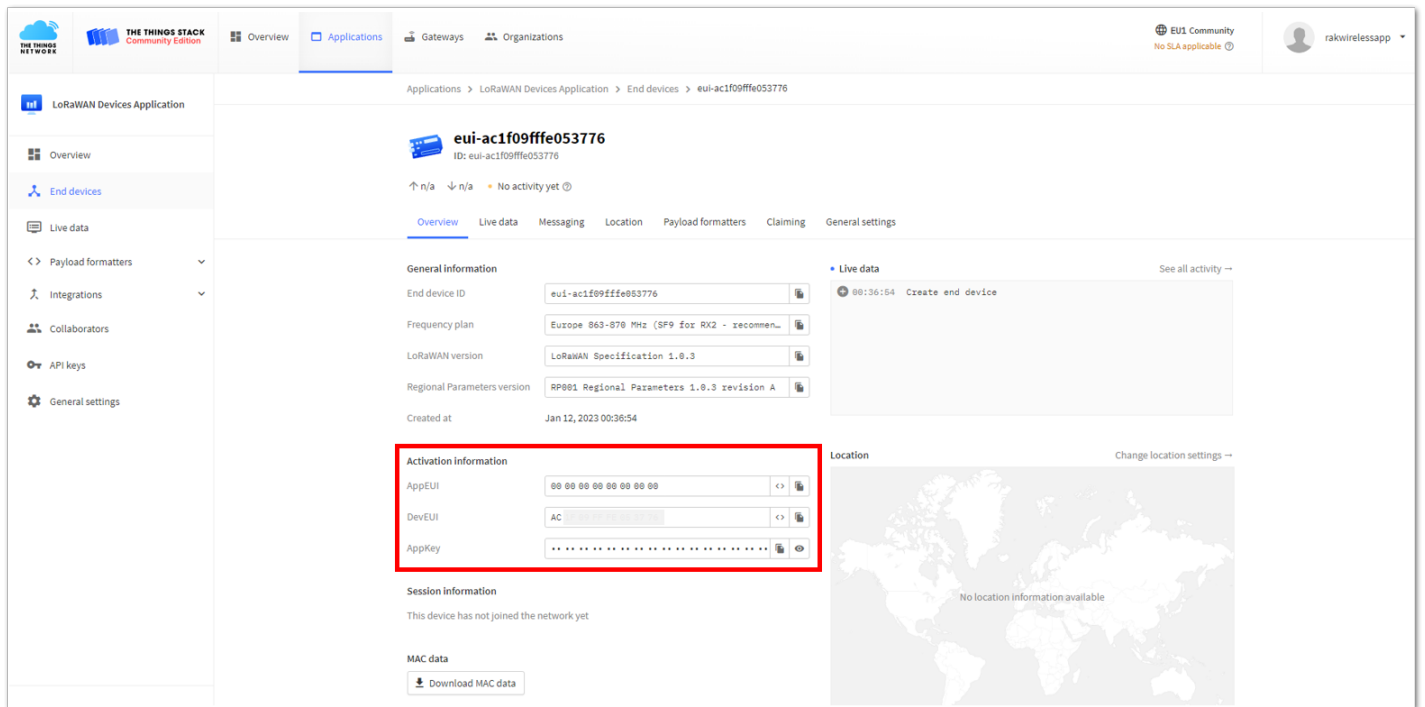

Figure 58: OTAA device successfully registered to TTN
6. You should now be able to see the device on the TTN console after you fully register your device, as shown in **Figure 58**.
- These parameters are always accessible on the device console page, as shown in **Figure 58**.